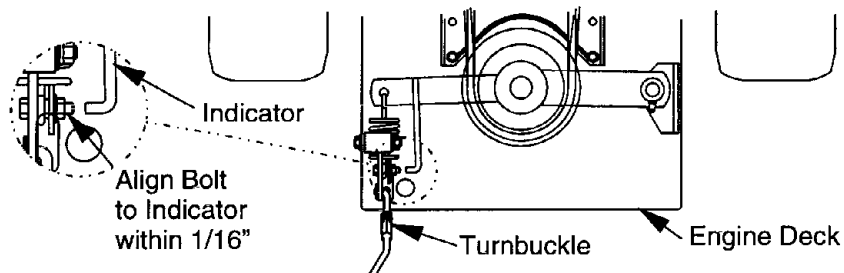

FIG. 12
- c) Look through the round hole in the left rear corner of the engine deck to inspect blade clutching belt tension. Bolt on blade engagement linkage bellcrank and indicator arm should align within 1/16" (See fig. 12). Refer to section 5.2.2 for adjustment.
- b) With blade drive engaged, adjust the linkage length by loosening the locknut on the turnbuckle and adjusting the turnbuckle so that the bolt on the bellcrank and the indicator arm align with each other within 1/16". See Figure 12. Tighten locknut against turnbuckle.